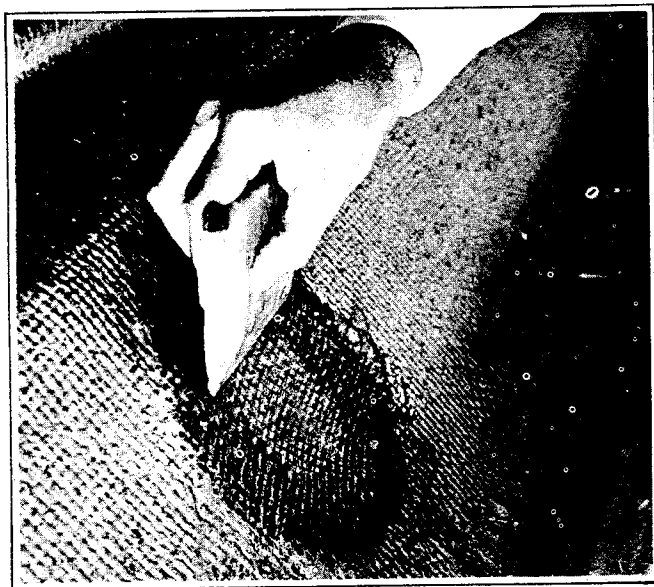

Figure 2-76. Squeegeeing Patch
7. Lay patch over hole, cover with cellophane and squeegee out air bubbles. Allow one to two hours to cure, then remove cellophane. See Figure 2-76.